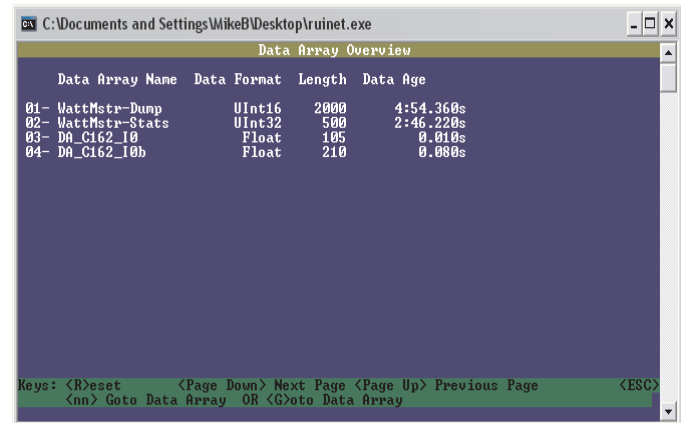

Figure 16: Data Array Overview Screen
14.) From the *RUINET Main Menu*, *type* <A> for the Data Array Overview. The *Data Array Overview Screen* will display (**Figure 16**).
15.) This screen (**Figure 16**) will verify communication to the HVAC units. Lines 1 & 2 should always be present. After a start-up period of approximately 4 minutes, you will see 2 additional lines as shown. This screen represents the PT Link communicating with 1 HVAC unit.